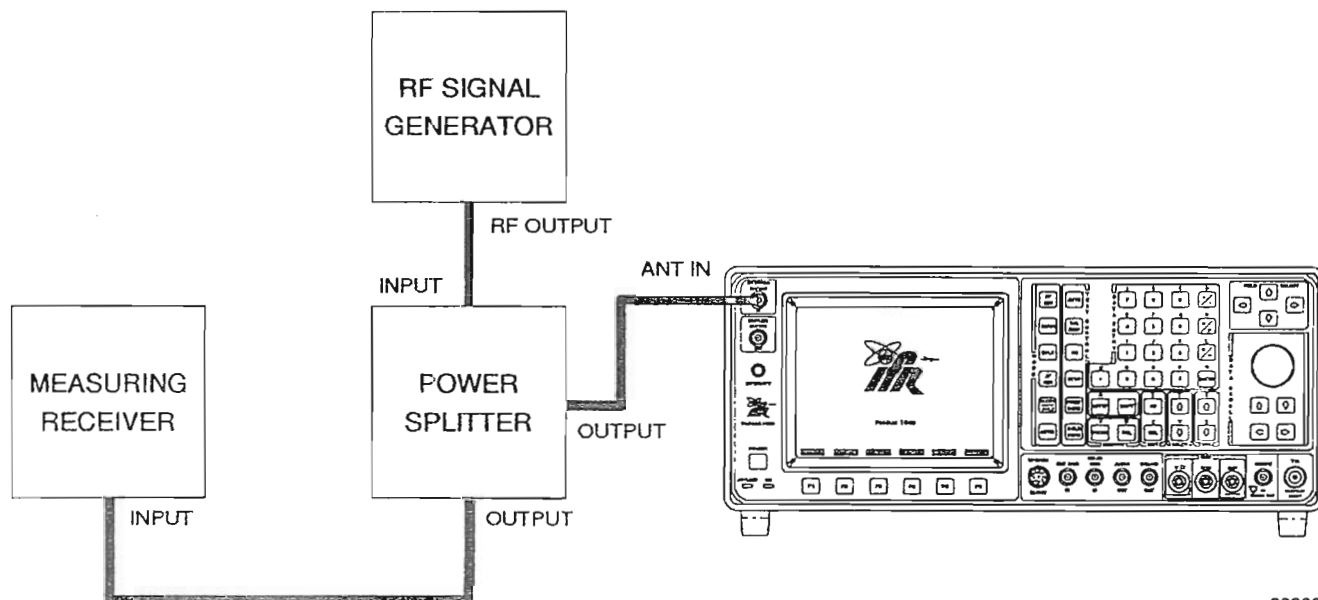

Figure 3-14 Deviation Meter Calibration Test Setup
FIGURE REFERENCES: Figure 3-14
1.	Apply power to FM/AM-1600S. Allow 5 minute warm-up period. Insure IFR Logo, with no error message, is displayed on CRT (26).
2.	Connect Power Splitter to Signal Generator RF Output (Figure 3-14).
4. Connect Measuring Receiver input to one output on Power Splitter and ANTENNA IN Connector (25) to other output on Power Splitter (Figure 3-14).